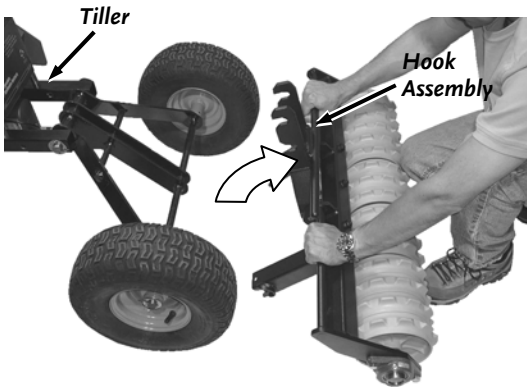

Figure 22
2. Position the Culti-packer at the rear of the Tiller near the wheel axle (**Figure 22**).